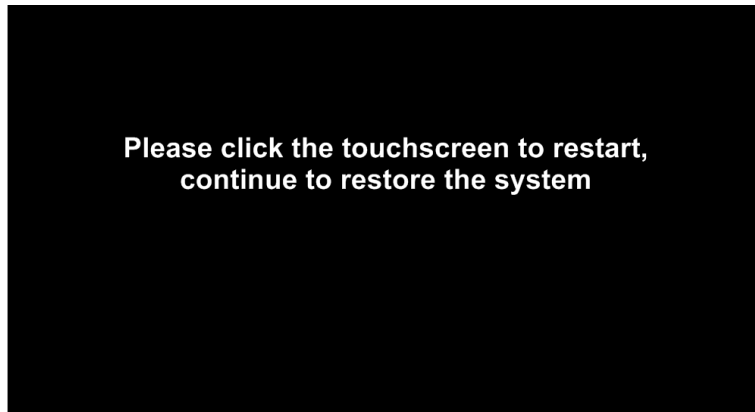

Fig.6
8. After completion, press the touchscreen to finalize the process (Fig. 6) and restore the system: